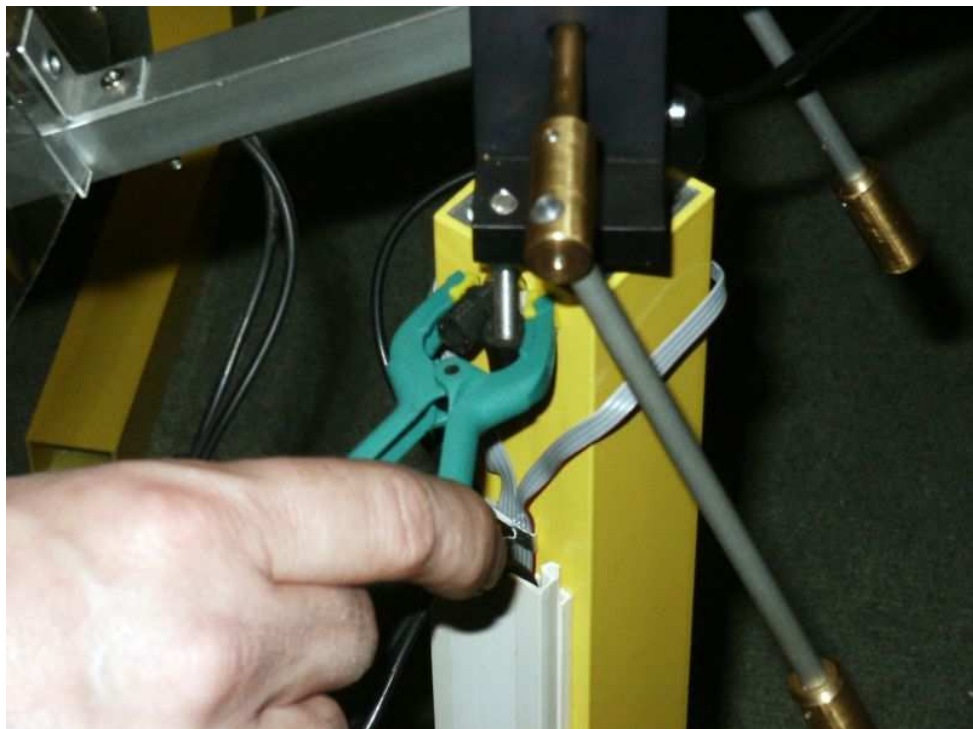
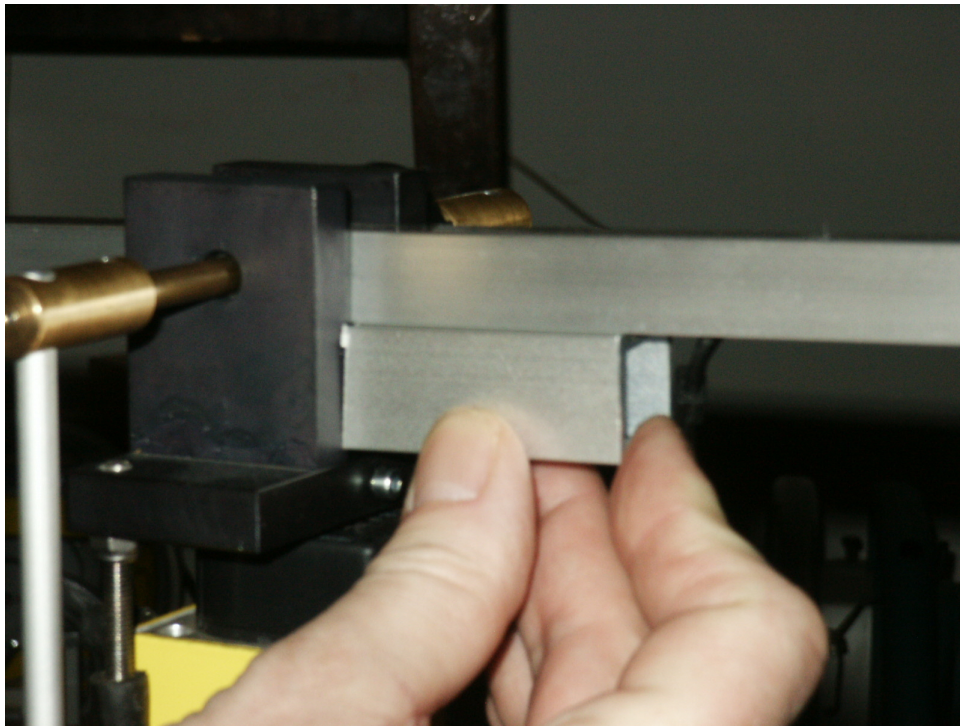

Fig. 8.1 Fixing one degree of freedom
Fig.8.2 Fixing one degree of freedom
- According to you selection (1-degree or 2-degrees of freedom experiment) fix one of axis using the included clamp or fixing bar (Fig.8.1, Fig.8.2)